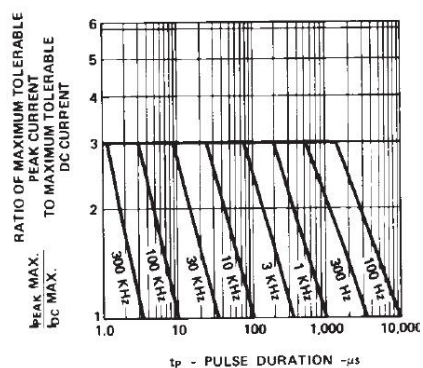

Figure 5. Maximum tolerable peak current vs. pulse duration. ( $I_{DC}$  MAX as per MAX ratings)
1. See Figure 5 (HER/Orange), 10 (Yellow), or 15 (Green/Emerald Green) to establish pulsed operating conditions.